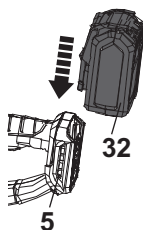

Fig. 17
1. Align the battery pack (32) with the sliding slots of the battery docking port (5) and slide the battery pack in to attach it. Ensure it clicks in place (Fig. 17).